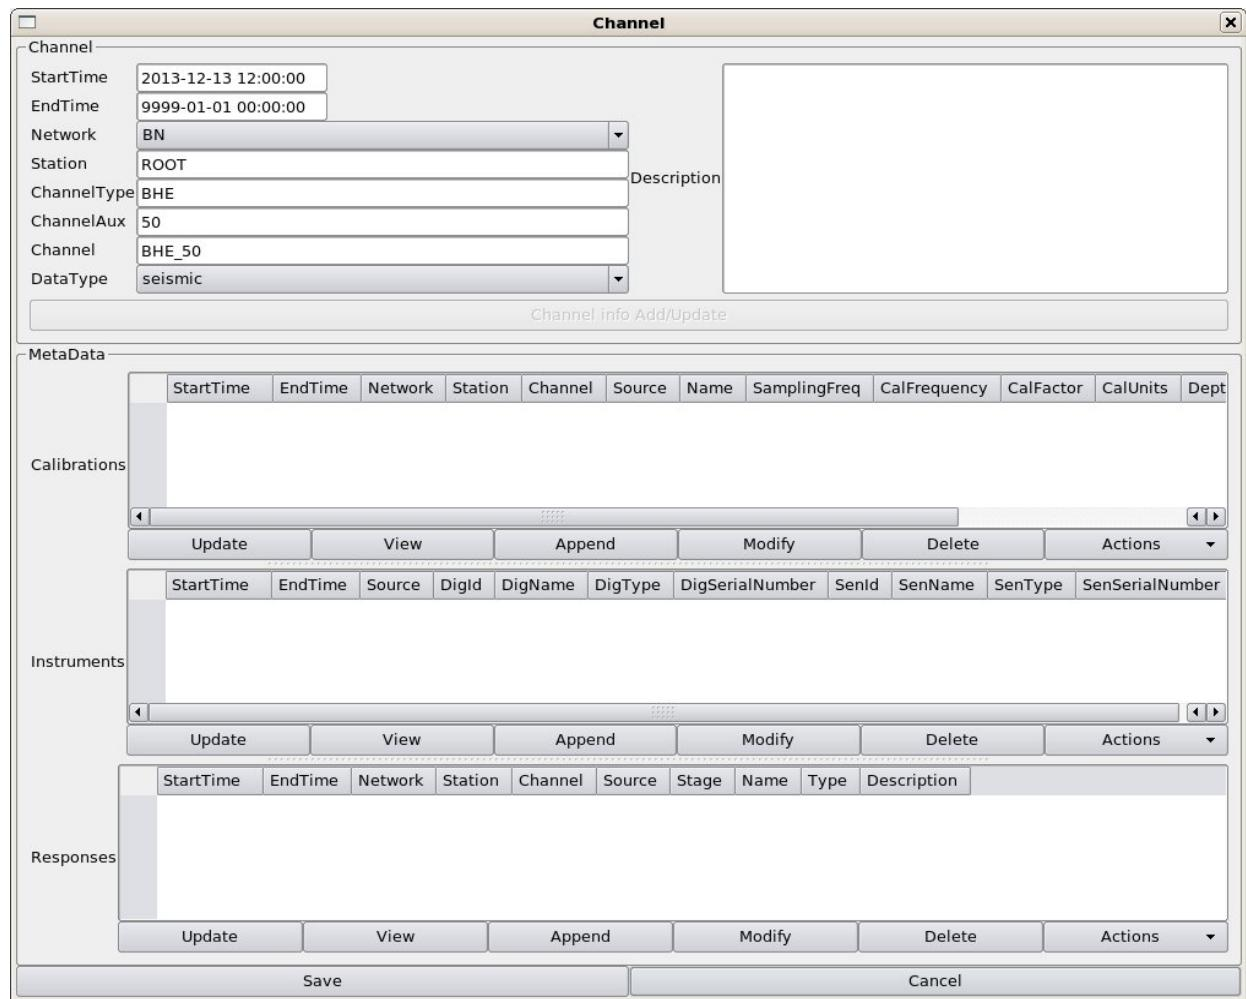

Figure 18: Channel edit window for new channel.
4. At the top of the “Channel Edit” window (Figure 18) enter “BHZ” (or “SHZ” or similar channel designation – SEED manual, ISDN/IRIS/USGS, 2006, Appendix A, contains the rubric) as the “ChannelType”, and the location code, if any, in the “ChannelAux” slot, and any description you want in the “Description” box, then press “Channel Info Add/Update”.